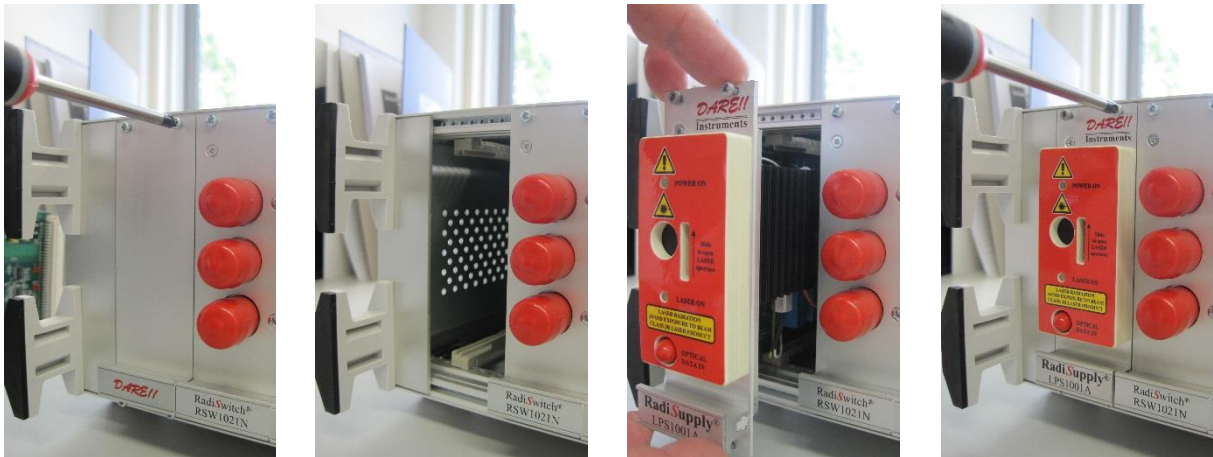

Figure 12: Example of a (RadiSupply® LPS1001A) plug-in card installation
3. Gently insert the plug-in card into the slot of the RadiCentre® and reinsert the four screws. See Figure 12.